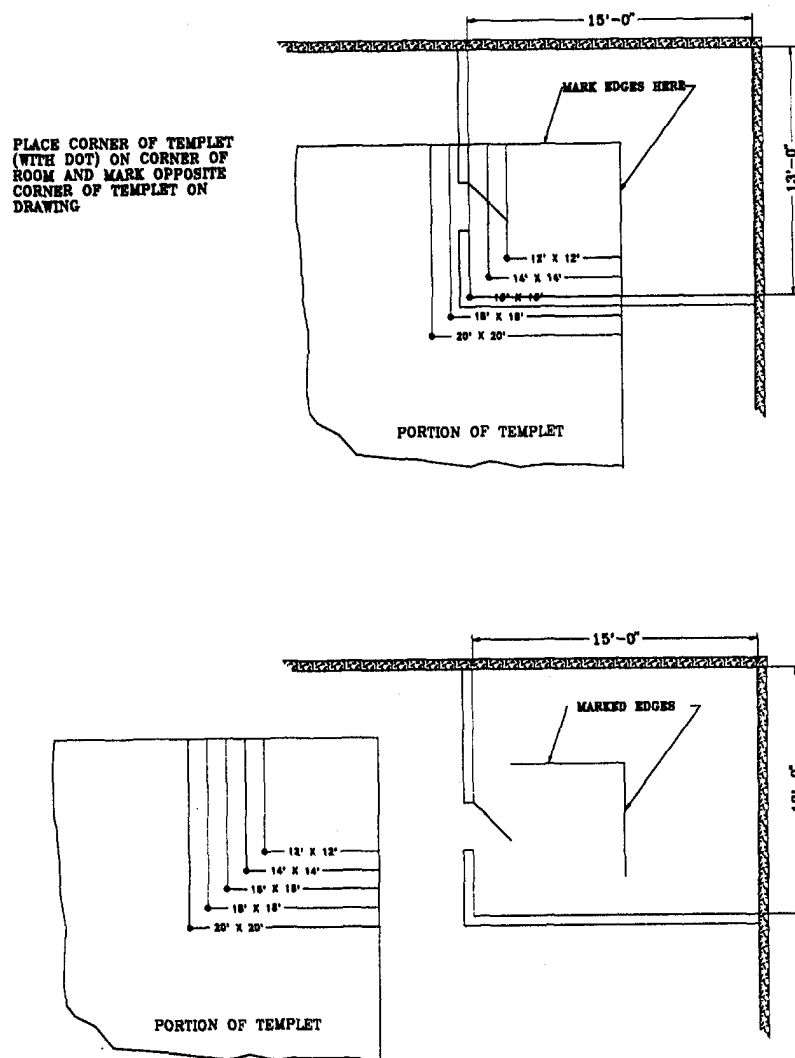

Figure 8
Creating a target zone by means of the templet is shown in Figures 8 and 9. In this example, the Coverage Area selected for the system is 16' x 16', and the room in which the sprinkler head is to be installed is 13' x 15'.
- Place this scale on one corner of the room on the plans, with the dot in the corner, as shown in Figure 8. Trace the corner of the scale edges onto the drawing.